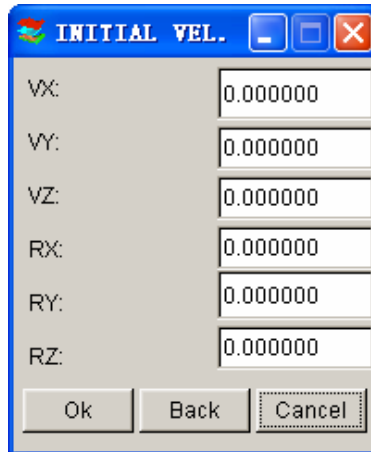

Figure 5.7.11 Velocity Define Table
- Enter the initial velocity in the INITIAL VELOCITY dialog window as in Figure 5.7.11.